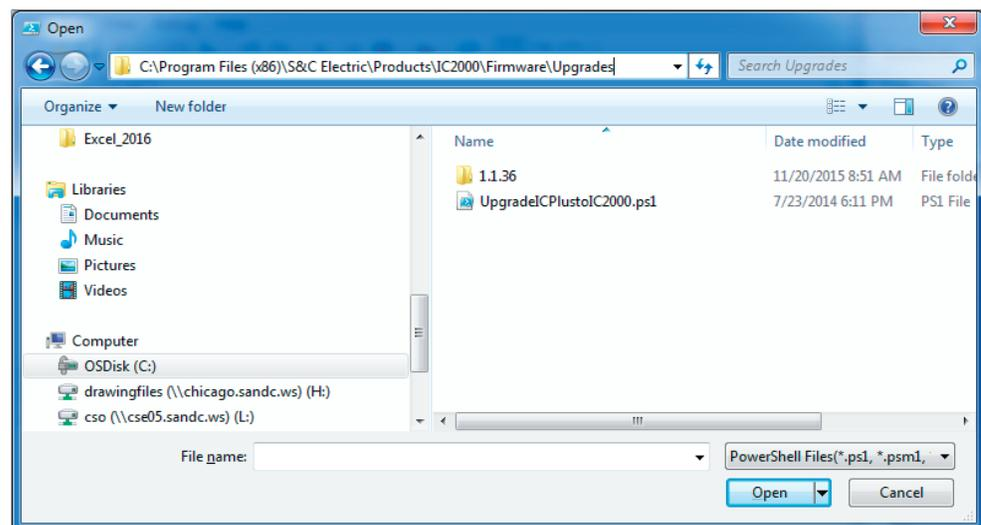

Figure 16. The IntelliCap Plus control firmware upgrade window.
STEP 2. Select the **File Open** option on the main menu and open the UpgradeICPlus toIC2000.ps1 script file. See Figure 16. The file is located at: